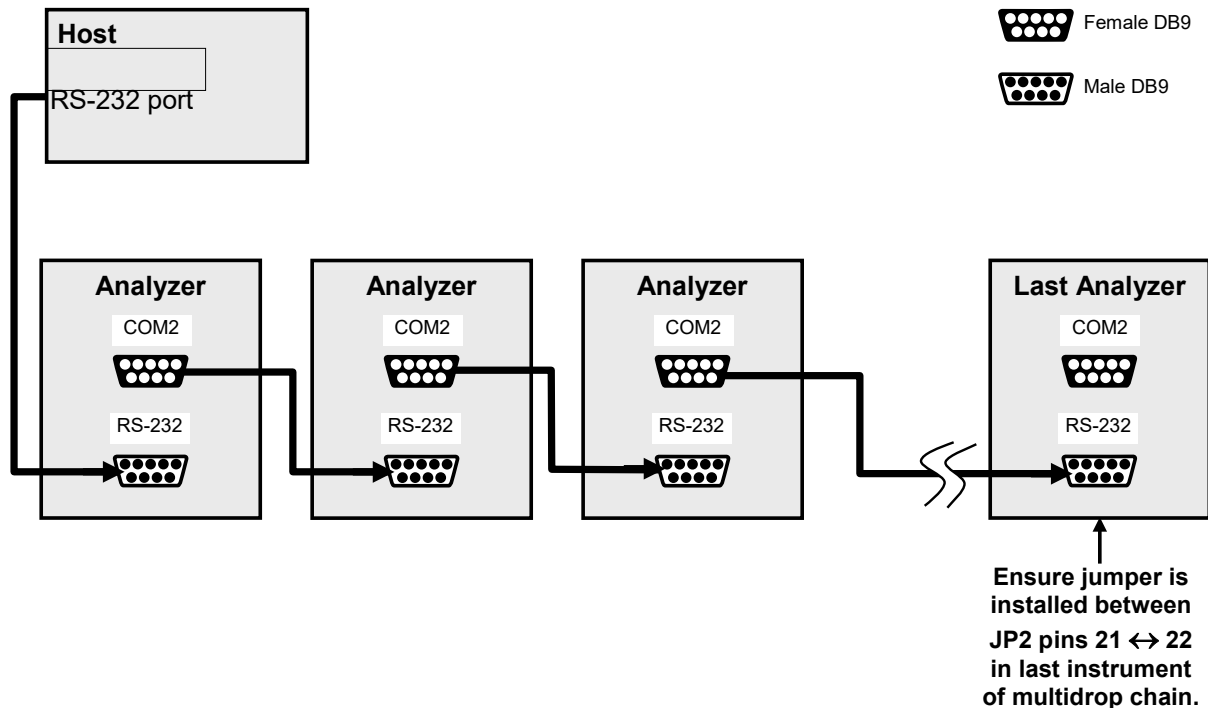

Figure 3-15: RS-232-Multidrop PCA Host/Analyzer Interconnect Diagram
5. Referring to Figure 3-15, use straight-through DB9 male → DB9 female cables to interconnect the host RS232 port to the first analyzer's RS232 port. Then from the first analyzer's COM2 port connect to the second analyzer's RS232 port, and from the second analyzer's COM2 port connect to the third analyzer's RS232 port, etc., connecting in this fashion up to eight analyzers, subject to the distance limitations of the RS-232 standard.